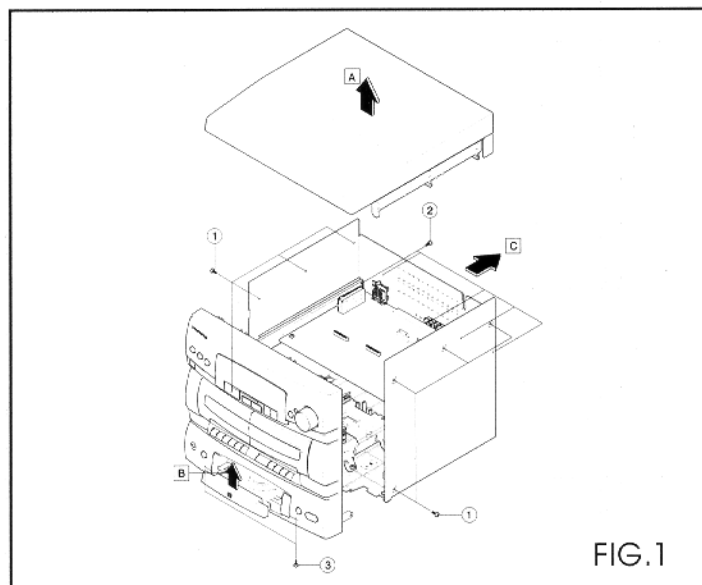

FIG.1
1. GABINETES SUPERIOR/FRONTAL/INFERIOR (FIG. 1)